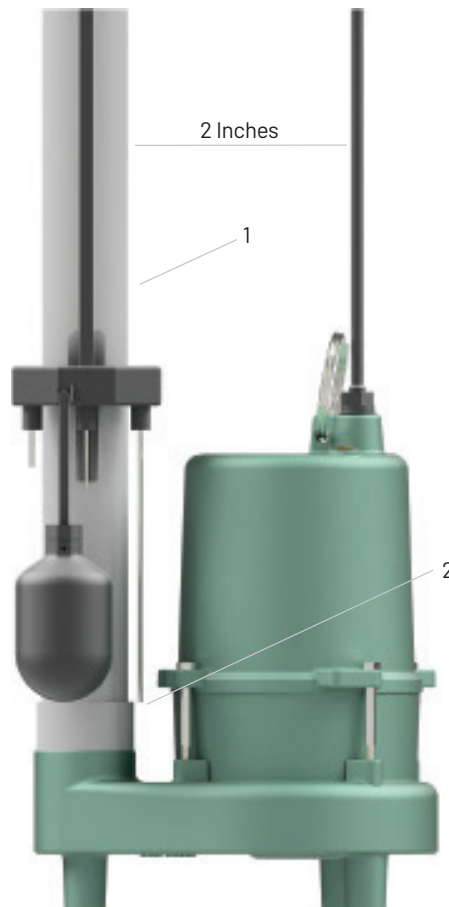

Figure 4
1. Determine the mounting location and attach the preset level sensor to the discharge pipe (Fig. 4) or a separate pipe mounted to a side wall (not shown) using the provided stainless steel pipe clamp and sensor holder/stabilizer. Make sure the preset level sensor is clear of inlet water.
2. The preset level sensor “stop level” (Fig. 4) should be mounted at the same height as the top of the pump or slightly below to ensure the pump intake is completely submerged. Securely fasten the preset level sensor using the pipe clamp to maintain system integrity.
When the water level is no longer touching the pump stop probe (Fig.4, Item 3; longest), the pump stops running. When the water level rises touching the pump start probe (Fig.4, Item 4; middle), the pump turns on and remains on until the water level recedes below the pump stop probe. This is the pumping range (6-inches).